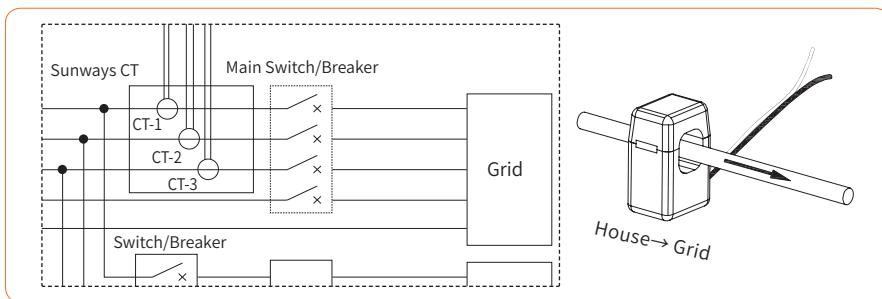

Figure 4-34 CT connection diagram
- ① The current transformer, also called CT, is usually installed on the fire wires between the house loads and the power grid, as shown in Figure 4-34.